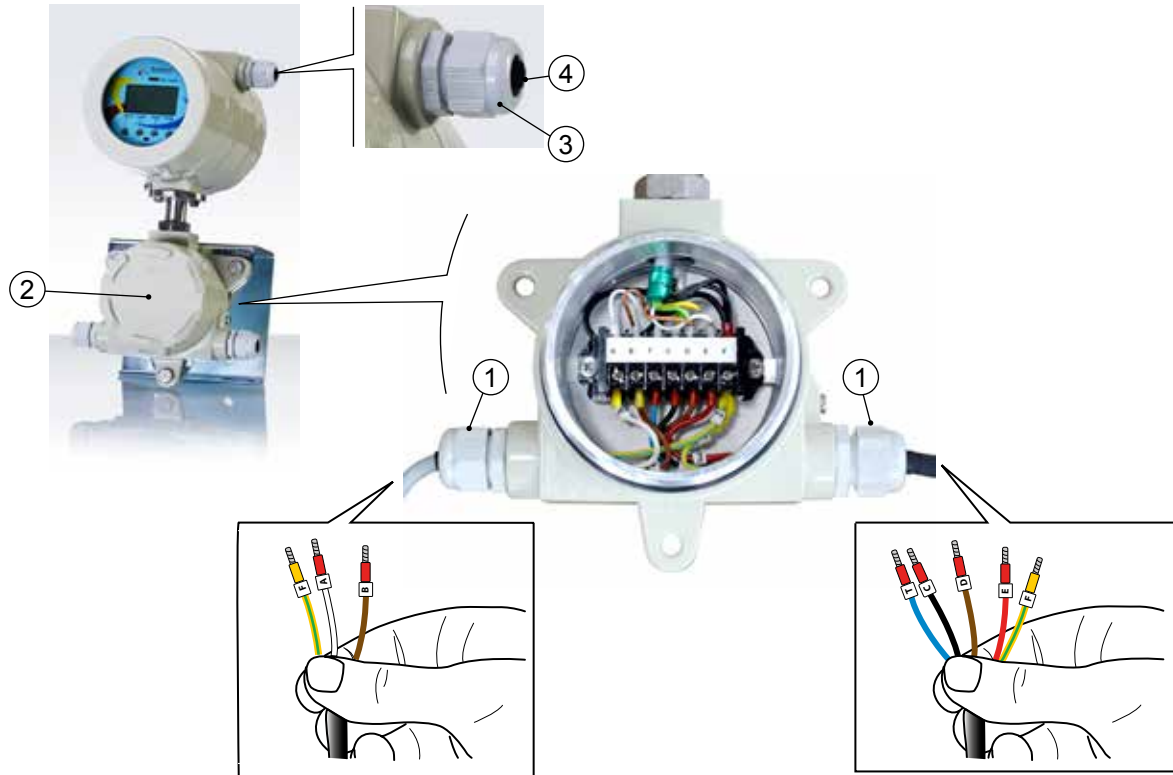

Fig. 24 Cables and Connection Terminals Identification
- i** The manufacturer has identified all the power cables and signal cables that have to be connected to the terminal block of the junction box (in case of REMOTE version) by marking them with bands (with letters) in order to ease the identification of the correct connection terminals (Fig. 24).
- ⚠** **CAUTION:** When all the necessary cables are connected, be sure to properly tighten the cable glands (see 1, Fig. 24) and the cover (see 2, Fig. 24) so as to guarantee good moisture and water resistance of the cables and electrical/electronic boards if the converter is installed outdoors.
- ⚠** Any unused cable glands (see 3, Fig. 24) must always be closed with the relevant blind rubber sealings (see 4, Fig. 24).
- ⚠** The used cable glands (see 1, Fig. 24) are suitable for multi-wire cables with a minimum diameter of 5 mm up to a maximum diameter of 12 mm (see 4, Fig. 24).